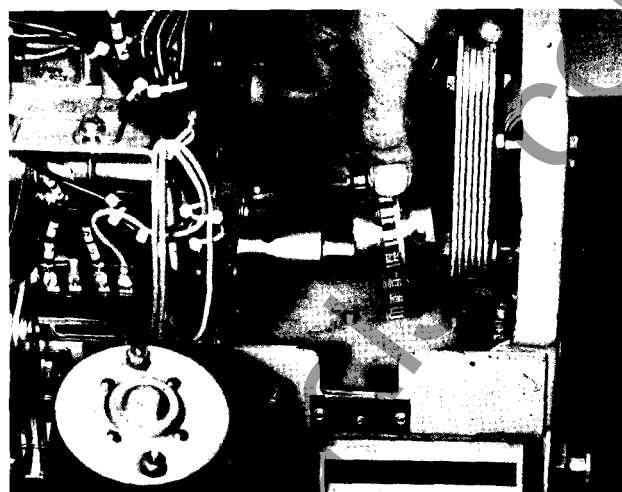

FIG. 5
8. Slide the new ratchet assembly onto the crankshaft. **Note** that the position of the cam-follower must be behind the centerline of the crankshaft, and on the side of the ratchet assembly nearest the mechanism, see figure 5.